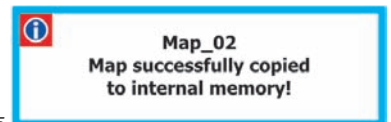

Fig. 165
- A confirmation message is displayed once copy is completed (Fig. 165). Press **ESC**.